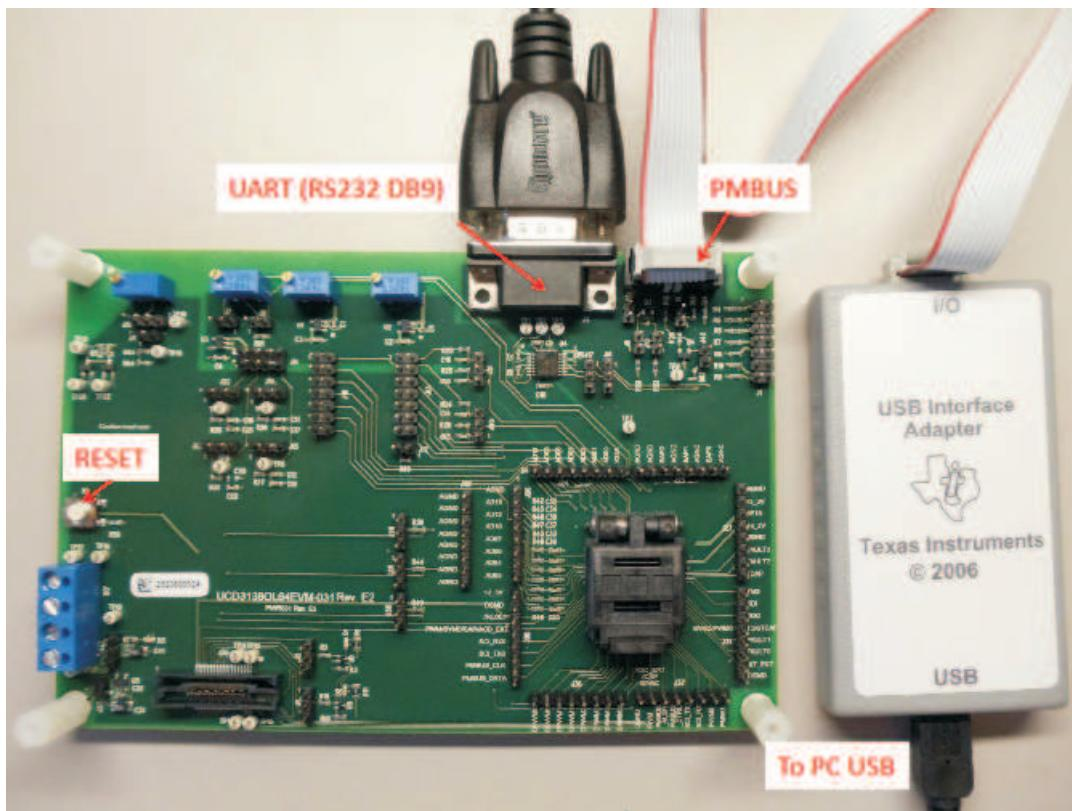

Figure 12. UCD3138OL64EVM-031 Test Connections
Shown below in Figure 12 is the connection between UCD3138OL64EVM-031 and the PC computer through USB-to-GPIO Interface Adapter.
Set up the EVM connection based on Figure 12.
1. Set up the EVM connection based on Figure 12. The LED of USB adapter is lighted up.